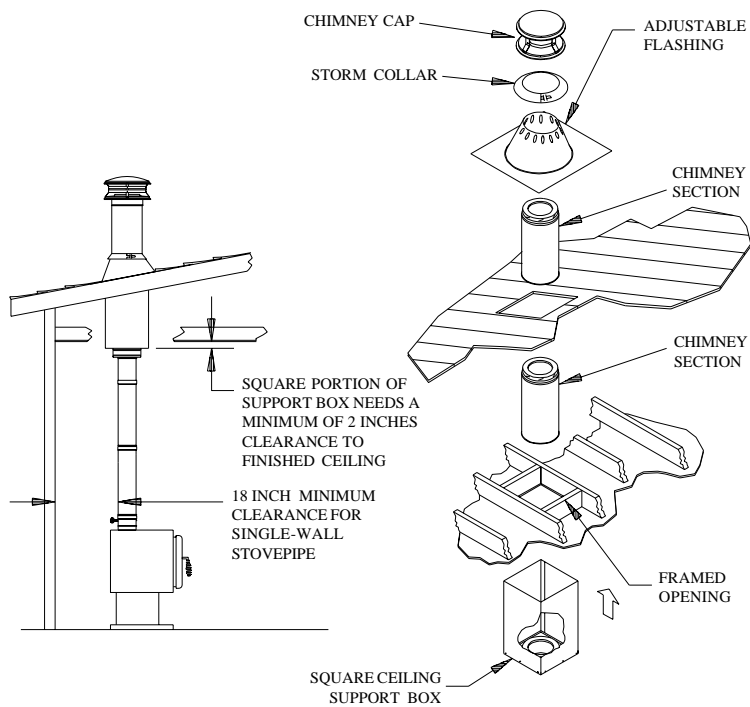
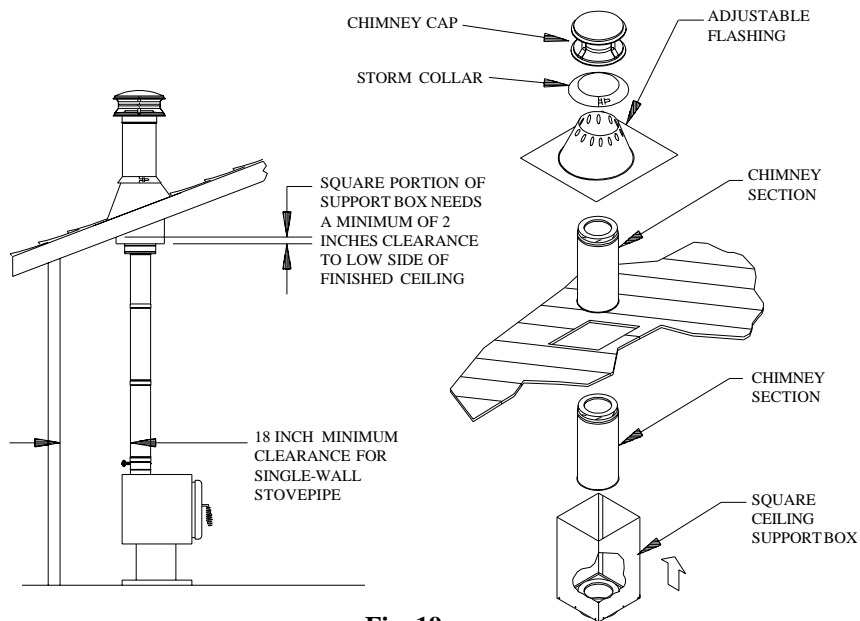

Fig 18
Fig 19
(1) For a Square Ceiling Support Box installation, make sure that the square box portion of the Support Box can extend at least 2" below the low side of the finished ceiling (Fig 19). The Support Box must remain level, and the top edge of the box must cover the edge of the roof's decking material. Square Ceiling Support Boxes are available in 11-inch, 24-inch, and 36-inch heights. Mobile home chimney
2. Cut Openings: Cut a roof opening in your desired location, just as in a Ceiling-Supported Installation (Steps 1 through 5, page 5). If a separate ceiling and roof exists, as shown in Figure 18 (Low Attic), first cut and frame a ceiling opening as described in Ceiling-Supported Installations (Step 2). Refer to Table 2 for clearance and framing specifications. If it is desired to install through a cathedral ceiling (Fig 19), then the hole is cut in the roof.